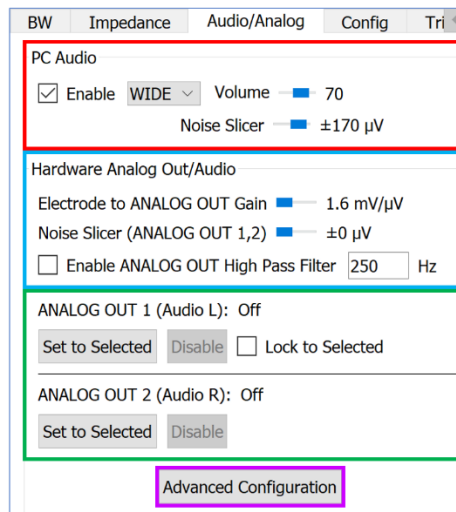

Fig. 66: Audio/Analog tab showing Analog-In-1, Analog-Out-1, two stimulating and two recording channels.
i) PC Audio (red box in **Fig. 66**)
ii) Hardware Analog Out/Audio (blue box in **Fig. 66**)
iii) Analog Out (green box in **Fig. 66**)
iv) Advanced Configuration (purple box in **Fig. 66**)